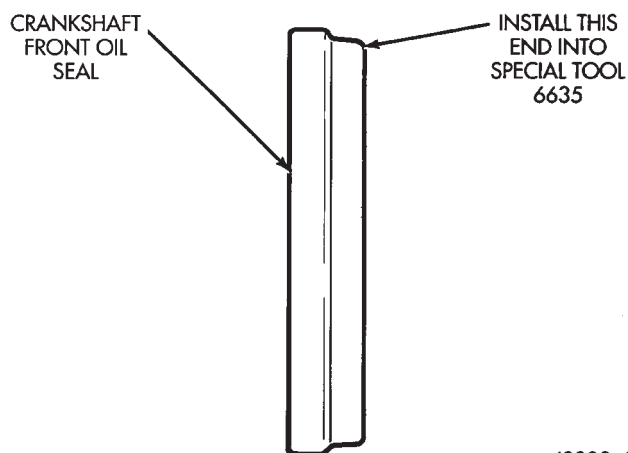

Fig. 43 Placing Oil Seal on Installation Tool 6635
(4) Place a suitable tool behind the lips of the oil seal to pry the oil seal outward. Be careful not to damage the crankshaft seal bore of cover.
(5) Place the smaller diameter of the oil seal over Front Oil Seal Installation Tool 6635 (Fig. 43). Seat the oil seal in the groove of the tool.